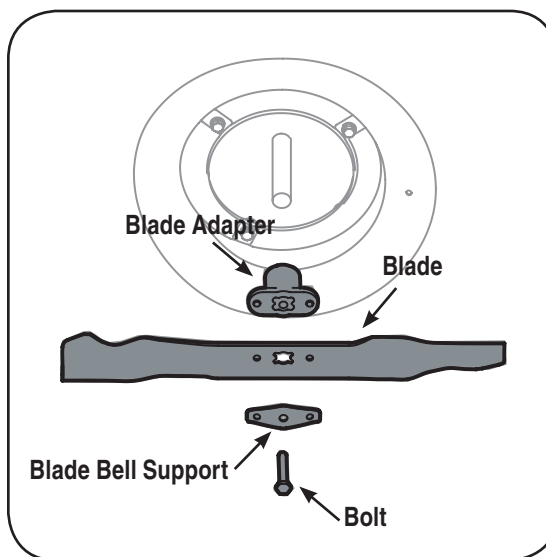

Figure 5-3: Remove the bolt, support, and adapter to access the blade.
2. Remove the bolt and the blade bell support which hold the blade and the blade adapter to the engine crankshaft, Figure 5-3.
3. Remove blade and adapter from the crankshaft, Figure 5-3.